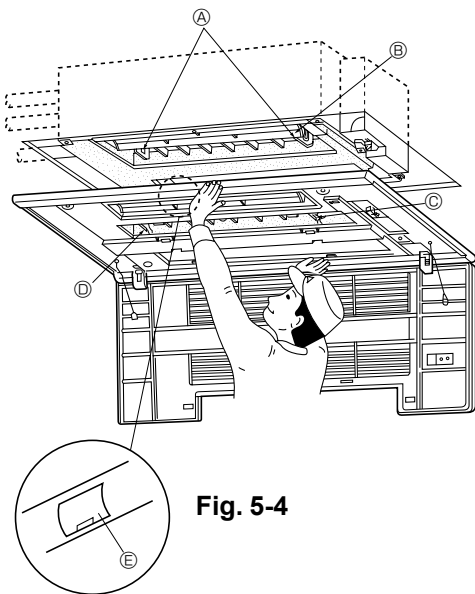

Fig. 5-4
5.3. Installing the grille (Fig. 5-4)